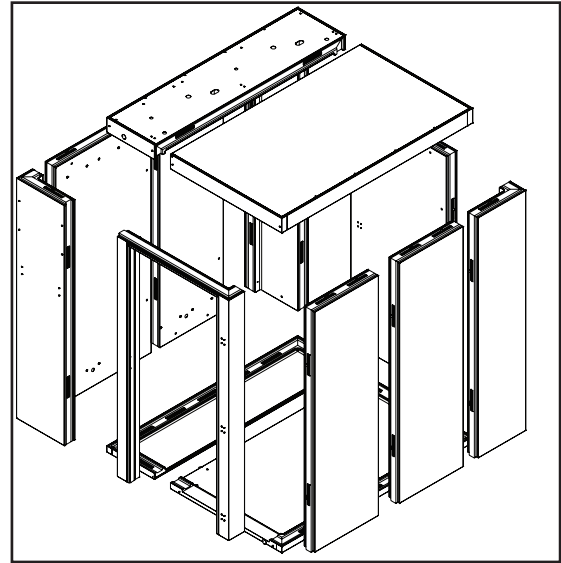

Figure 2: Panel Diagram
1. Lay out floor panels according to the panel diagram. (See figure 2)
1. Lay out wall panels according to the panel diagram. (See figures 2 & 3)